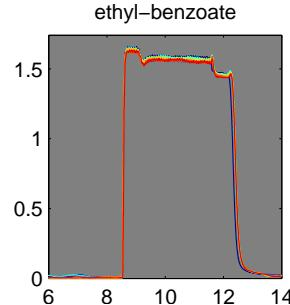

Figure 1.13: params_100326_131251: Nice!
- One can get surprisingly good kinetics even without a final valve (Fig. 1.1, p. 2). In that Figure we're using 1/8" tubing and pure ethanol. The problem is that the head-space needs to be equilibrated to attain a consistent response (see how good it *can* look: Fig. 1.13, p. 12) and this requires a final valve.